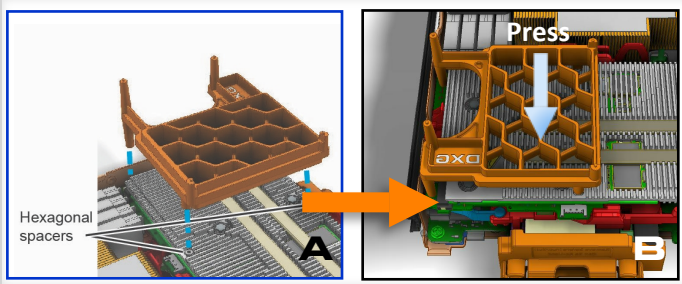

Figure 5: (A) Locate the insertion tool. (B) Push on the tool to install the DXG
2. Turn the insertion tool so you can see the letters 'DXG' and locate the insertion tool on top of the hexagonal spacers on the DXG. See Figure 5 \(A\).
3. Push down on the DXG insertion tool with the heel of your hand to install the DXG. See Figure 5 \(B\).
1. Install the mezzanine board support clip on the edge of the blade chassis. See Figure 5.